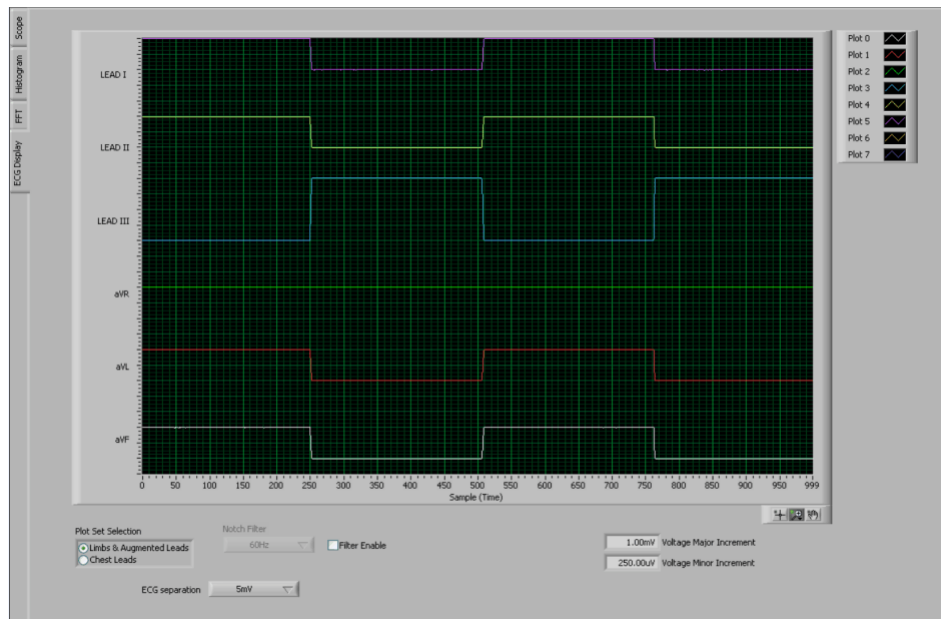

Figure 31. Example of Internal Test Signals Viewed on the ECG Display Tab
**Configuration Register 2** controls the signal amplitude and frequency of an internally-generated square wave test signal. The primary purpose of this test signal is to verify the functionality of the front-end MUX, the PGA, and the ADC. The test signals may be viewed on the *ECG Display* tab, as Figure 31 shows. Detailed instructions for using the *ECG Display* tab are provided in Section 3.5.5.